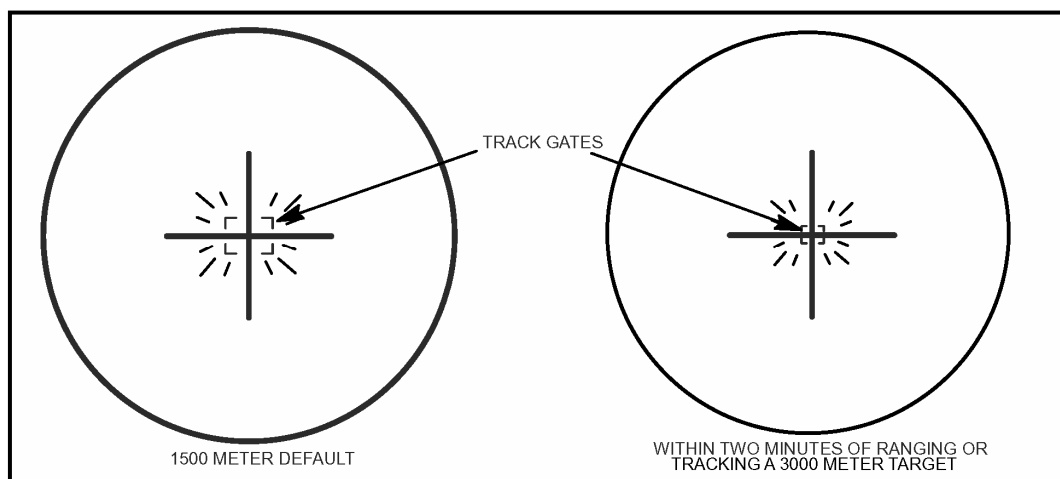

Figure 2-31. Track gates.
(4) **Track Gates.** When the gunner presses the TRK GTE switch, four box corners called track gates appear on the TAS display (Figure 2-31). The tracker located in the FCS generates the track gates. The gunner adjusts the track gates around the target and commands the tracker to lock onto the target. The track gates first come up flashing and sized for a tank at 1,500 meters unless a target has been ranged or tracked within the past two minutes. The track gates will stop flashing and become solid after the gunner commands lock on.